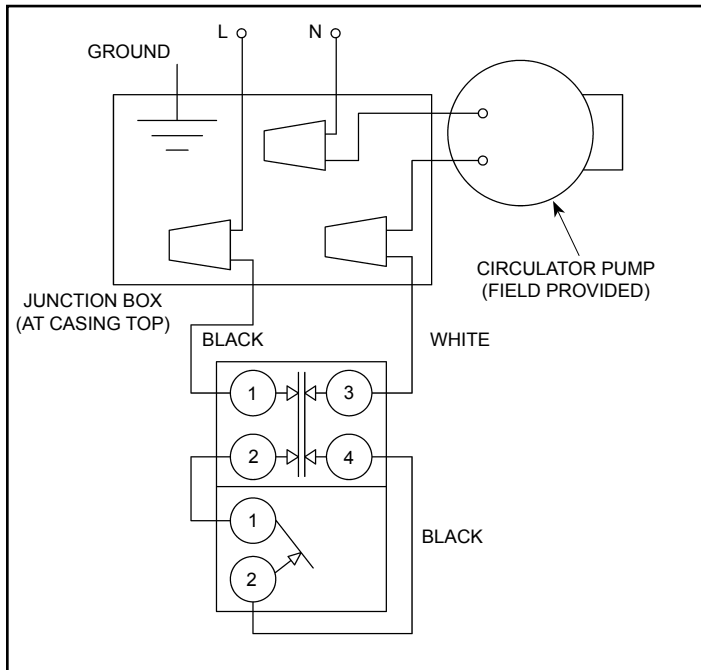

Figure 4. Wiring Diagram
2. Connect the circulator pump in series with the thermostat as shown in Figure 4.